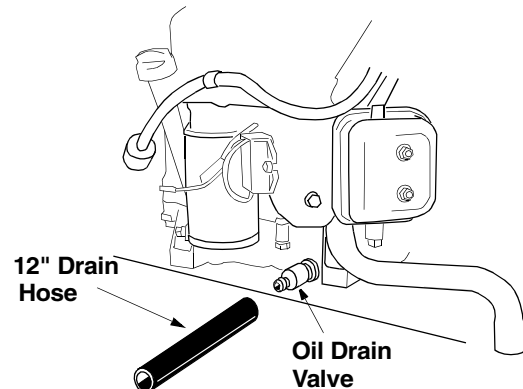

Figure 24
- Your lawn tractor may have a valve installed on the engine for draining oil from the crankcase. See Figure 24 .To drain the oil, insert the 12" hose (shipped loose with your unit) over the end of the valve. Place the other end in a suitable container. Push in black cap, rotate counter-clockwise and pull valve open. When oil is completely drained, push top of valve in and rotate clockwise to close.